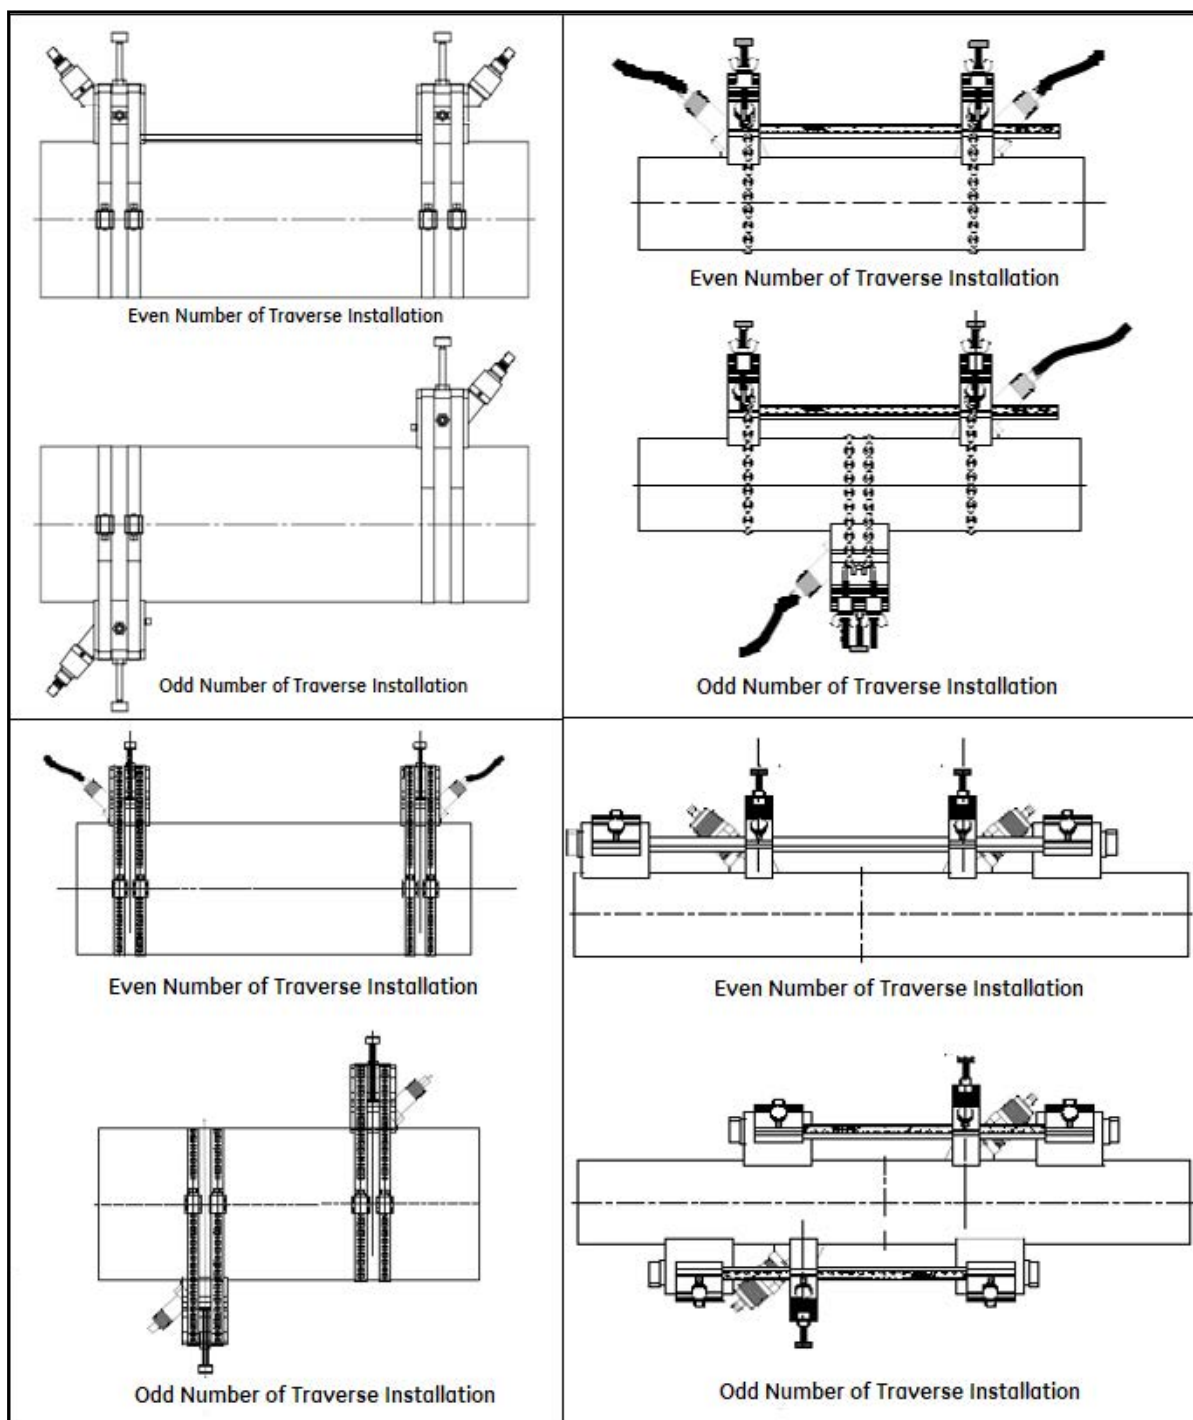

Figure 21: SCF Clamping Fixture (Top Left), UCF Clamping Fixture (Top Right), GCF Clamping Fixture (Bottom Left), MCF Clamping Fixture (Bottom Right)
For any of the fixtures above except for the SPCF, the last step in the installation is mounting the transducers into the clamping fixture. Although not all transducer models are installed the same way, the following information provides some general guidelines to help you. The face of the transducer must be in contact with the pipe because this is where the ultrasonic signal is emitted. All Panametrics transducers include a dimple, depression as it is illustrated in *Figure 21*, drill point or slot on the opposite side of the transducer wedge face, for use as a guide in aligning and securing the transducer. In addition, some transducers have scribe marks on the side to assist in setting the transducer spacing. *Figure 16* below shows an example of the dimple and scribe marks on the transducers.
5. Repeat Steps 1-4 to mount the other transducer in the fixed short block. See Figure 21 below for completed typical clamping fixture installations.